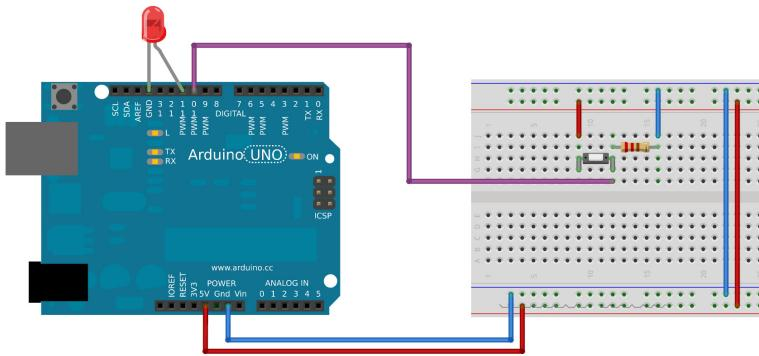

Figure 2.5: Blinking LED advanced layout
Before writing any code, try to assemble the parts as shown in Figure 2.5.
1. Place the pushbutton on your breadboard. In Figure 2.5, the two pushbutton "legs" are inserted into holes 6c and 6c. In this example, the pushbutton will be energised through the 6c leg.
3. In order to avoid confusion, cables on all figures are color coded. *Red* represents power cables, *blue* are connections to GND and *cyan* are connections to IO pins on the Arduino. Try to duplicate the layout of Figure 2.5.